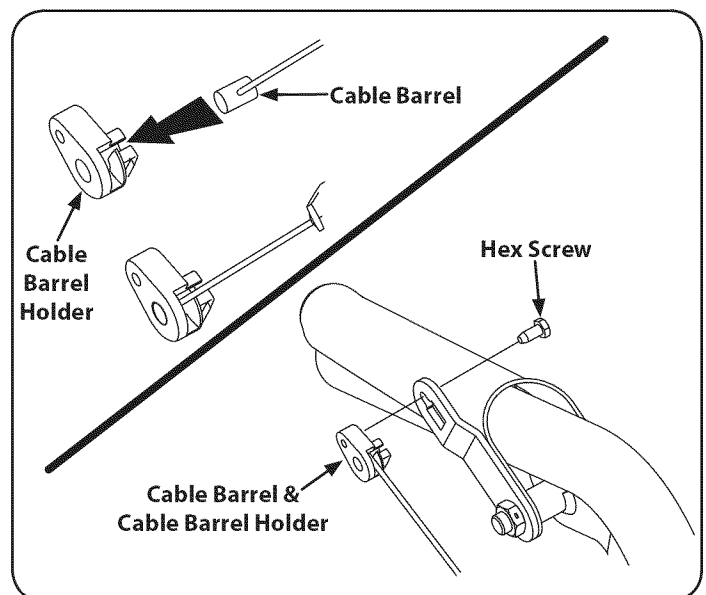

Figure 7
4. Insert the cable barrel into the cable barrel holder, insert the barrel and barrel holder into the clutch handle and secure with the hex screw. See Figure 7.